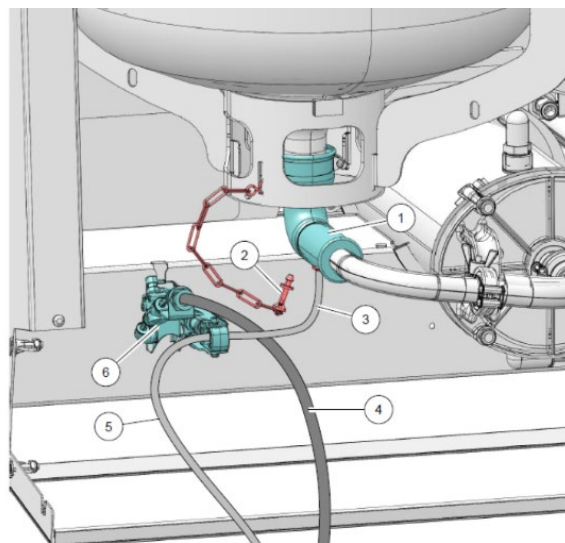

Figure 29. For the Astronaut A4 milking robot
- Connect the milk tube to an Astronaut A4 milking robot, pass the milk tube 5 through the hole for sampling cylinder 6, remove stop nipple 2 and connect the milk tube 3 to the nipple on the elbow 1, see the figure 29